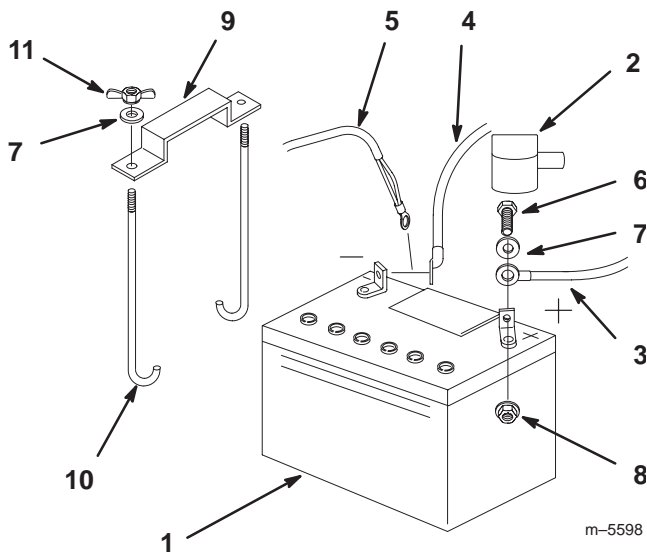

Figure 70
- Position battery in tray with terminal posts toward the engine (Fig. 70).
- Secure cables with 2 bolts (1/4 x 3/4 inch), 2 washers (1/4 inch), and 2 locknuts (1/4 inch) (Fig. 70).
- Secure battery with J-bolts, hold down clamp and 2 washers (1/4 inch), and 2 wing nuts (1/4 inch) (Fig. 70).
3. First disconnect the negative battery cable and ground wire from the negative (-) battery terminal (Fig. 70).
4. Slide the red terminal boot off the positive (red) battery terminal. Then remove positive (red) battery cable (Fig. 70).
5. Remove both wing nuts (1/4 inch) securing the battery clamp (Fig. 70).